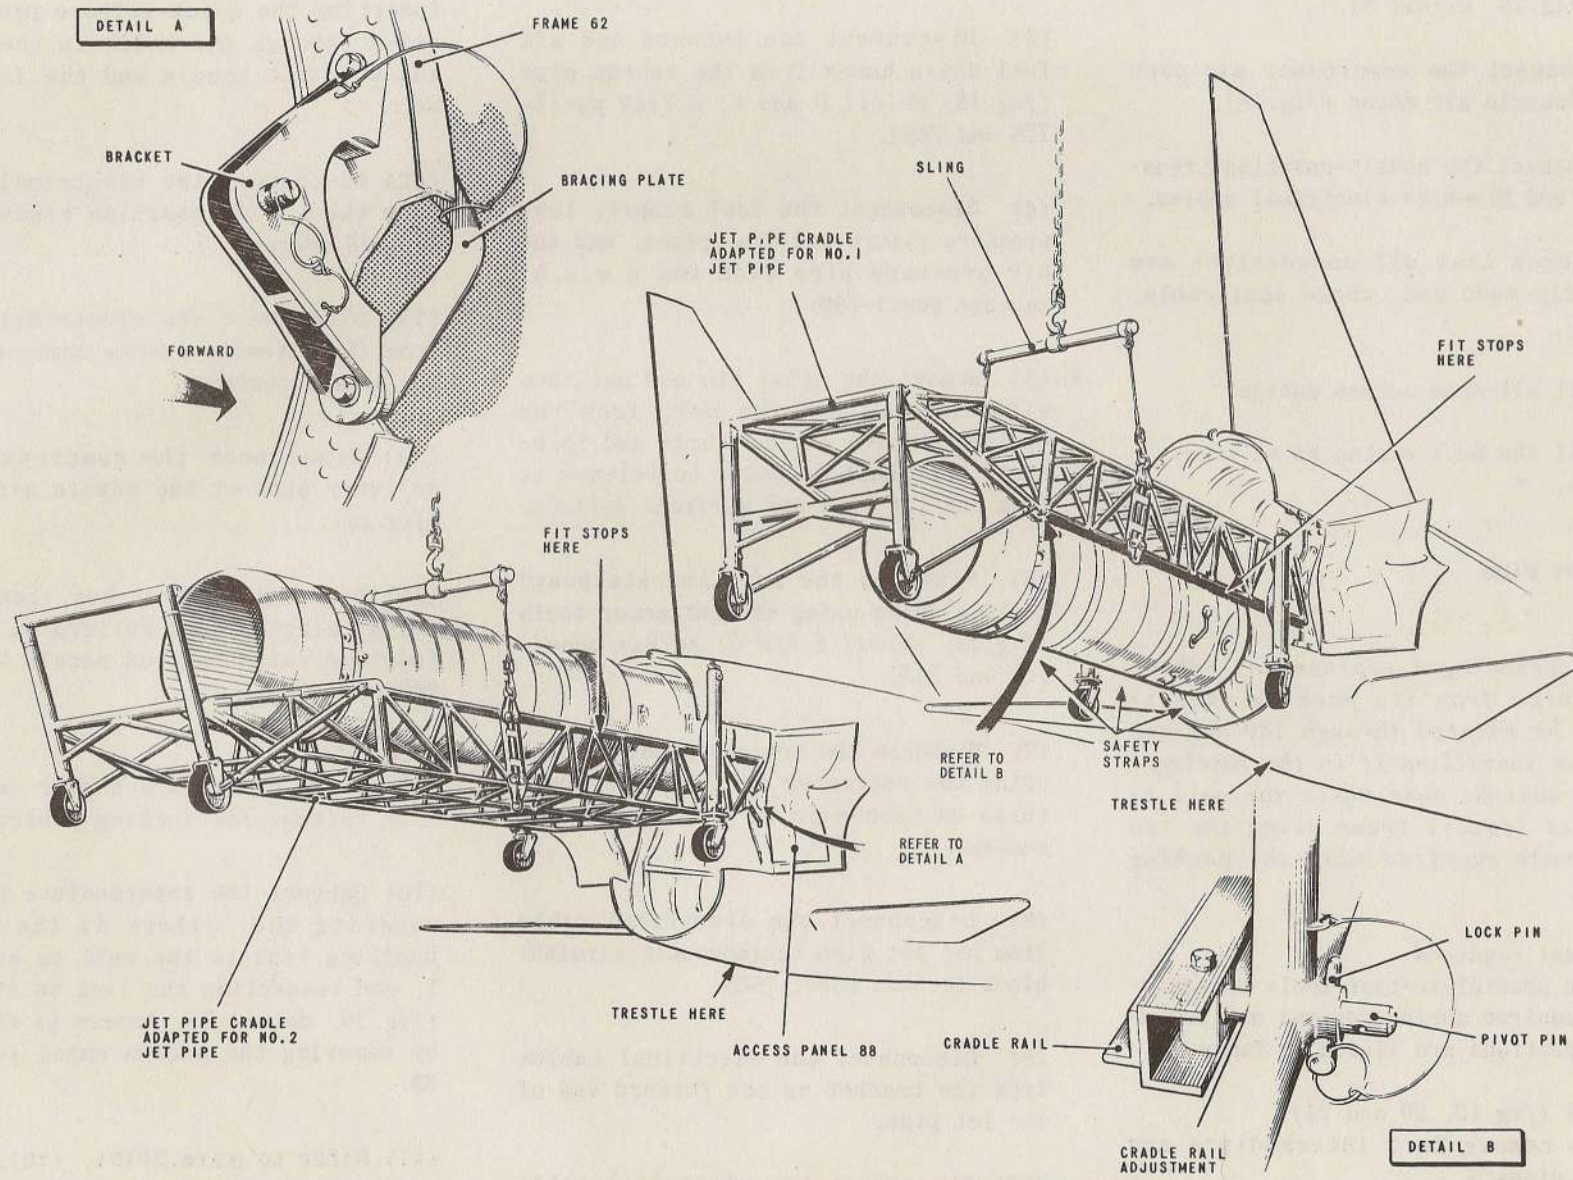

FIG. 21. JET PIPE - REMOVAL AND ASSEMBLY(2)
(17) Fit the jet-pipe-cradle pick-up brackets to frame 62 (fig.21, detail A).
(18) Adapt the cradle to receive a No.1 pipe (fig.19). Set the rails to the wide position, i.e. cradle rail adjustment quick-release pins through the inner holes (fig.21, detail B). Lift the cradle to the fuselage and secure it to the attachment brackets; align the cradle rails with the fuselage rails.
(1) Ensure that the necessary precautions (para.33) are being observed.
(2) Adapt the jet-pipe cradle to receive a No.1 jet pipe (fig.19); set the cradle rails to the narrow position (fig.21, detail B) and, with the intermediate pipe on a transportation stand, draw the cradle over the aft end of the pipe.
(3) Lift the cradle and pipe to the fuselage, and secure the cradle to the pick-up brackets on frame 62 (fig.21, detail A). Align the cradle rails with the fuselage rails.
(4) Remove the stops and roll the pipe into the fuselage; guide the self-aligning trunnion blocks into the jet pipe channels, and align the jet-pipe flange with the engine exhaust unit flange. Refer to para.37(26) and secure the intermediate jet pipe to the engine and fit the overboard vented heat shield.
(5) Remove the cradle and adjust the rails to the wide position. With the reheat pipe on a transportation stand, draw the cradle over the rear end of the pipe until the rear rollers are running on the rear section of rails; adjust the forward section of rails to the narrow position to receive the front rollers. Fit the forward reheat pipe stops.
(6) Lift the cradle to the fuselage and attach it to the brackets on frame 62. Align the cradle rails with the fuselage rails and remove the forward stops.
(7) Roll the reheat pipe forward until the front rollers are on the fuselage rails, reposition the forward section of the cradle rails to the wide position and continue rolling the reheat pipe until the rear trunnions are positioned firmly on their mountings on frame 62.
(21) Set the cradle to the wide position, i.e. with the cradle rail adjustment quick-release pins through the inner holes (fig. 21, detail B).
(22) Roll the jet pipe on to the cradle until the rear reheat pipe rollers are running on the cradle rear rails; set the cradle front rails to the narrow position, i.e. quick-release pins through the outer holes, and continue rolling the jet pipe until it is against the rear fixed stops. Fit the forward stops, using quick release pins.
(1) Ensure that the necessary precautions (para. 33) are being observed.
(2) Adapt the cradle to receive a No. 2 jet pipe, and set the aft section of the rails to the wide position, and the front section to the narrow position (fig. 21, detail B). Lift the reheat pipe on to the rear section and the intermediate pipe on to the front, ensuring that the coupling device is securely locked. Adjust the forward rollers to their lowest position, and fit the reheat pipe stops to the rails. Attach the sling to the cradle.
(3) Lift the cradle and jet pipes to the fuselage, and secure the cradle to the brackets on frame 62. Align the cradle rails with the fuselage rails.
(4) Remove the cradle rail stops, and roll the jet pipe into the fuselage until the front rollers are on the fuselage rails. Reset the forward section of cradle rails to the wide position, and continue rolling until the